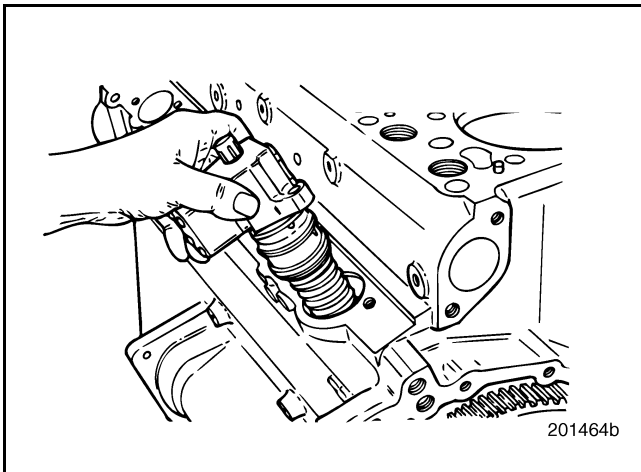

Figure 314 — Unit Pump Installation
2. Generously lubricate EUP O-rings with clean engine oil and install the EUP into the cylinder block (Figure 314).